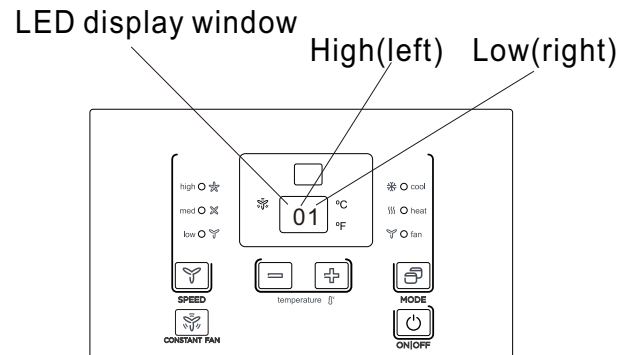

Fig.4
- Press the up (+) and down (–) buttons together for 3 seconds to activate the dip switches configurations by panel control (see Fig.4).
- Display function settings with 2 digitals in LED display window, high (left) for dip switches, low (right) for functions (see Fig.4).